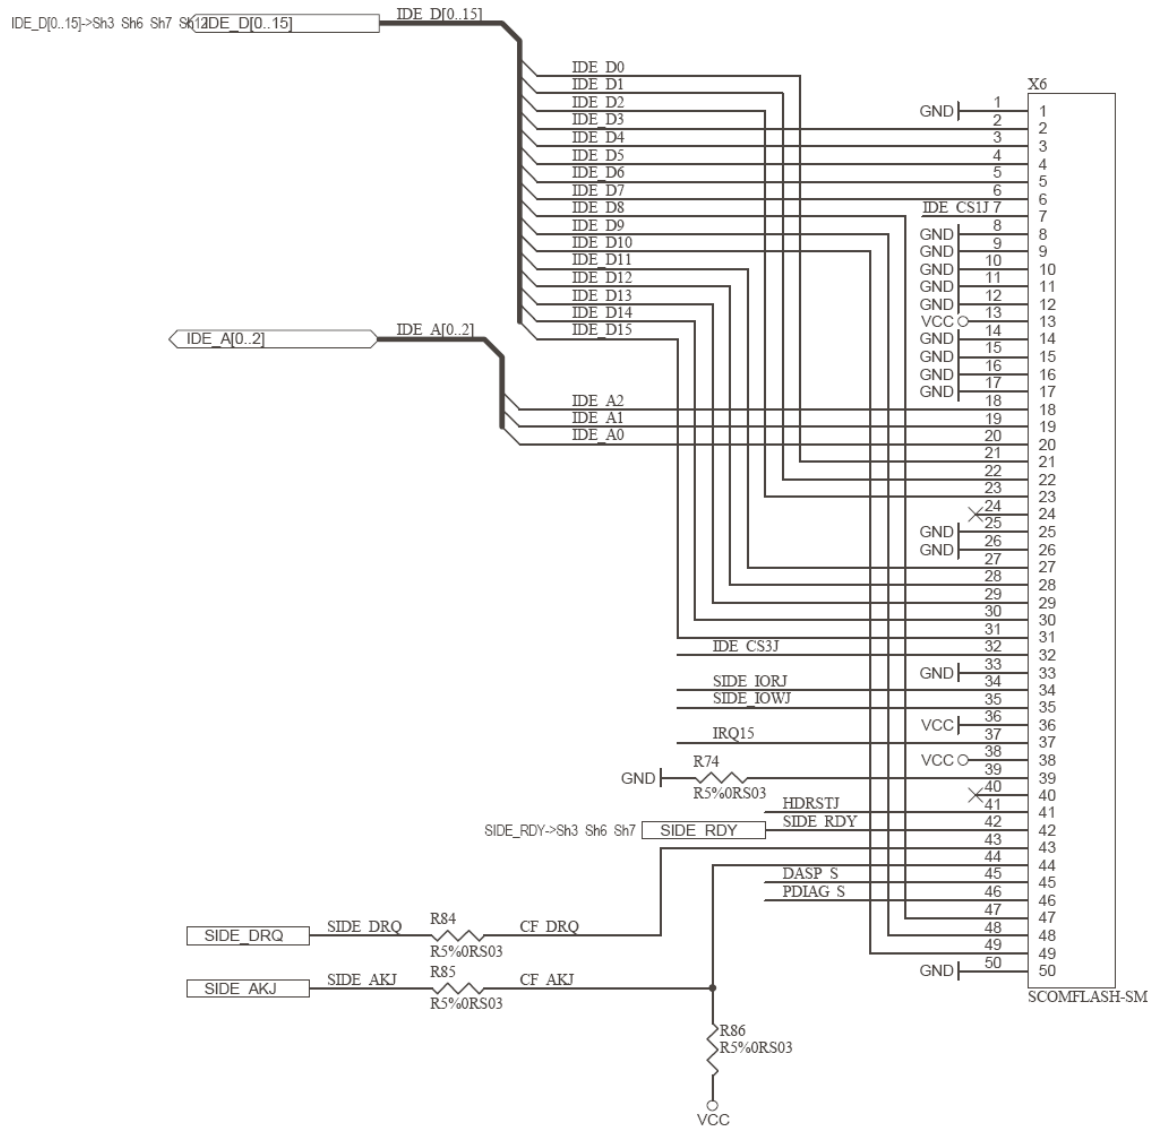

Figure 20 – CompactFlash Socket
Figure 20 shows CompactFlash (CF) socket wired as a secondary master IDE device. CompactFlash cards are used as alternatives to mechanical hard drives, especially when only moderate data capacity is needed. A CF card in IDE mode has the same electrical interface as an IDE hard drive, so it may be wired to an ETX® IDE port in the same way.
Distance B: PHY to Transformer (Priority 2) Distance B from Figure 20 also should be designed to extend as short as possible between devices. The high-speed nature of the signals propagating through these traces requires that the distances between these components be closely observed.